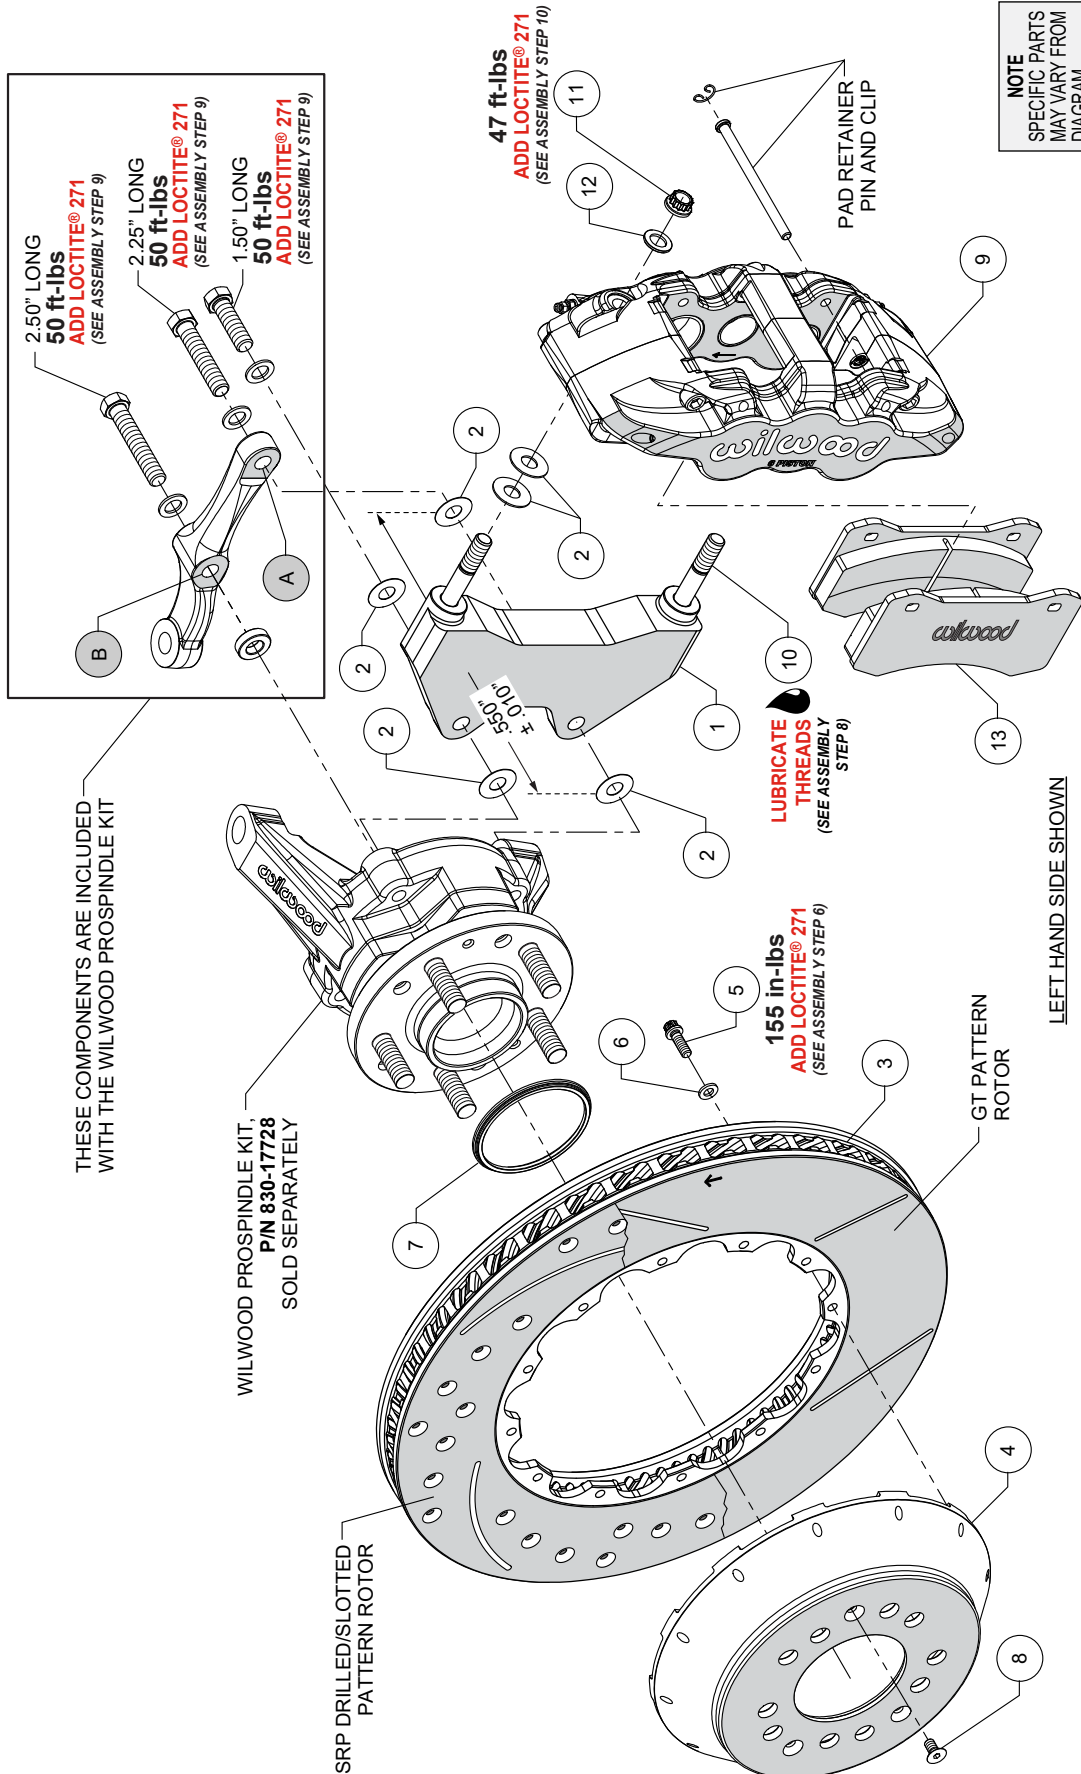
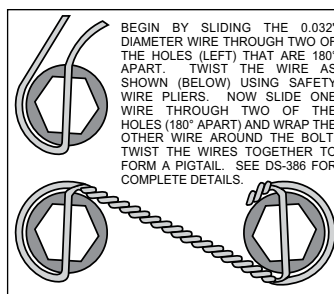

Figure 1. Typical Installation Configuration
Figure 3. Safety Wire Diagram
- NOTE:** This brake kit fits Wilwood's 2" drop ProSpindle (P/N 830-17728). Some hardware shown in Figure 1 is included with the ProSpindle kit (sold separately).
NOTE: Numbers in parenthesis refer to the parts list and Figure 1 on the preceding pages.
NOTE: Each Wilwood ProSpindle kit (sold separately) includes bolts, washers, and a spacer to mount the steering arm and caliper bracket. The various bolts are identified by length in the following instructions and in Figure 1.
STEP 1 The caliper bracket (1) should initially be installed with clean, dry threads on the mounting bolts. Orient the bracket as shown in Figure 1 and Photo 1.
STEP 2 Install the bracket (1) at top spindle hole using 1.50" long bolt and .063" thick washer (from ProSpindle kit), and one .030" thick shim (2) between the bracket and spindle, Figure 1 and Photo 2
STEP 3 Orient the steering arm, and identify the hole marked 'A', as shown in Figure 1 and Photo 2. Install at bottom spindle hole using 2.25" long bolt and .063" thick washer (from ProSpindle kit), one .030" thick shim (2) between the bracket and steering arm, and another .030" thick shim (2) between the bracket and spindle, Figure 1 and Photo 2. The bracket is located between the steering arm and spindle. **NOTE:** The bracket and shim washers must add up to a total thickness of .550" ± .010".
STEP 4 Finish attaching the steering arm through the hole marked 'B', as shown in Figure 1 and Photo 2. Install using 2.50" long bolt, .063" thick washer, and .250" thick spacer (all from ProSpindle kit), Figure 1 and Photo 2.
STEP 6 Orient the rotor (3) and the hat (4) as shown in Figure 1, and Photo 3. Attach rotor to hat using bolts (5) and washers (6). Apply red *Loctite*® 271 to the bolt threads and torque to value shown in Figure 1 using a criss-cross pattern. For an added measure of security, the bolts may be safety wired using standard 0.032 inch diameter stainless steel safety wire as shown in Figure 3. Refer to Wilwood's data sheet DS-386 (available at www.wilwood.com/Pdf/DataSheets/ds386.pdf) for complete safety wire installation instructions.
STEP 7 Install the rotor registration adapter (7) onto the register of the hub assembly with the smaller O.D. facing outward, Photo 4. Slide the rotor/hat assembly (3/4) onto the hub, taking care to align the small countersunk holes in the hat with the small threaded holes in the hub, Figure 1. **NOTE:** The hat must fit flush against the hub face or excessive rotor run out may result. Install rotor locator screws (8) to keep the rotor/hat assembly in place while continuing with the installation, Photo 5.
STEP 8 **NOTE:** This kit contains distinct right and left hand calipers that must be mounted in a specific direction, as described below. Lubricate the caliper mounting studs (10) with lightweight oil. Initially place two .030" thick shims (2) on each stud (10) between the caliper and the bracket, as shown in Figure 1 and Photo 6. Mount the caliper (9) onto the bracket (1) using lock nuts (11) and washers (12), Figure 1. Temporarily tighten the lock nuts. Ensure that the caliper is mounted so the largest pistons are at the rotor exit end of the caliper, in relation to the forward rotation of the rotor. View the rotor through the top opening of the caliper. The rotor should be centered in the caliper, Photo 7. If not, proceed as follows:
- Adjust by adding or subtracting shims (2) between the **bracket and the spindle**. Always use the same amount of shims on each of the two bolts **between bracket and spindle**.
- For the lower bracket mount bolt, if a shim (2) was added between the **bracket and spindle**, then a shim must be removed between the **steering arm and bracket**, such that the total thickness of bracket and shims remain equal to $.550 \pm .010$ ".
STEP 9 Once the caliper alignment is correct, remove the ProSpindle supplied bolts one at a time, apply red *Loctite*® 271 to the threads, and torque to value shown in Figure 1.
STEP 10 Remove the caliper (9), then remove the two pad retaining pins from the caliper by carefully popping out the pin retaining clips and sliding out the pins. Insert the brake pads (13) into the caliper from the bottom with the friction material facing the rotor, Figure 1 and Photo 8. Secure the brake pads in place with the pad retaining pins and clips. Reinstall the caliper onto the caliper mounting bracket and temporarily tighten the lock nuts.
Check that the top of the brake pad is flush with the outside diameter of the rotor, Photo 9. If not, adjust by adding or subtracting shims (2) between the caliper and the bracket. After the caliper pad height is set, torque the caliper lock nuts (11) to value shown in Figure 1.